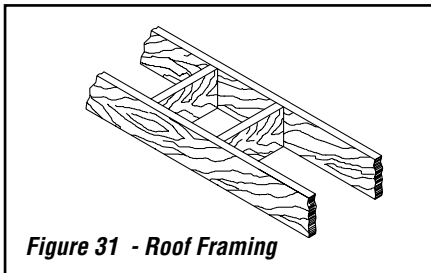

Figure 31 - Roof Framing
1. Cut and frame the holes in the ceiling, floor and roof where the chimney will pass (see **Figure 31**). Use a plumb-bob to line up the center of the holes. The sizes are indicated in **Table 2** for the floor and ceiling holes and **Table 3** (**Page 22**) for the roof holes.